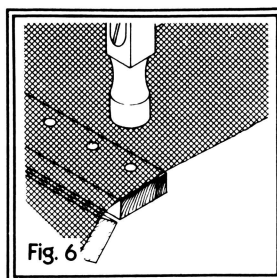

Fig. 6
1. First, follow steps 1 through 5 above. At step 6, nail the screen to the outer side of the frame (the outdoor side) (fig. 6).